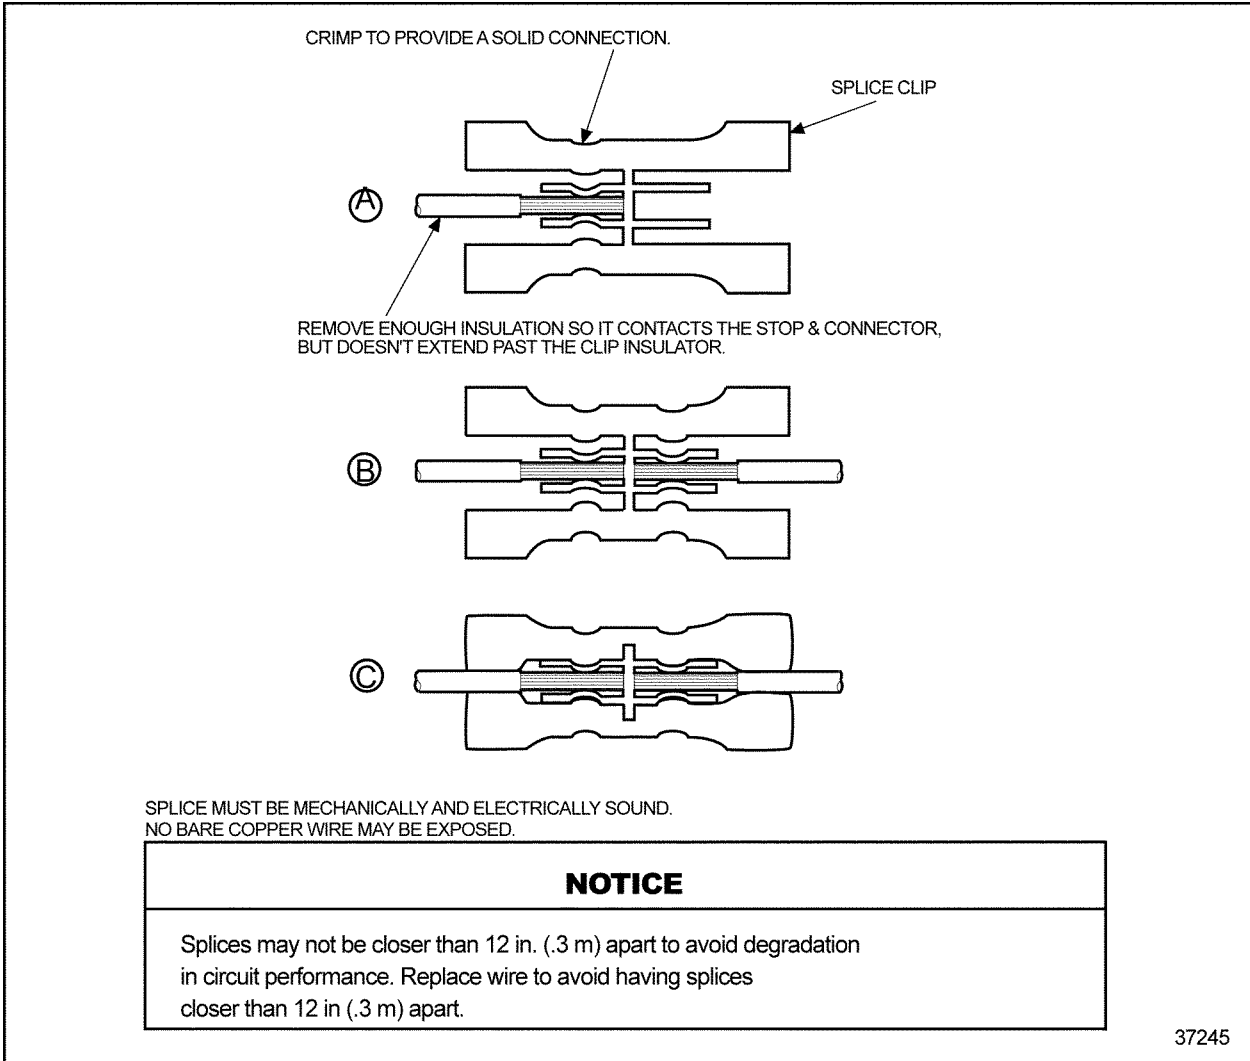

Figure 17-17 Splicing Straight Leads - Alternate Method 1
3. Insert one wire into the splice clip until it butts against the clip. Stop and crimp (see Figure 17-17, A).
4. Insert the other wire into the splice clip until it butts against the clip stop (see Figure 17-17, B).
7. Shrink the splice clip insulative casing with a heat gun to seal the splice (see Figure 17-17, C).